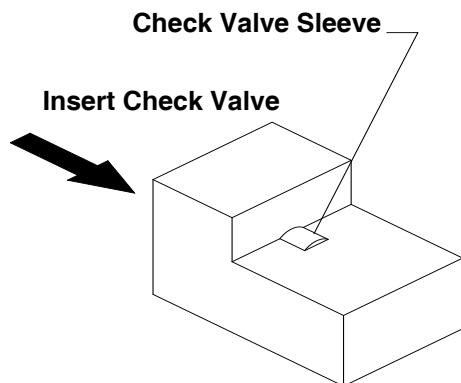

FIG. 24 Sleeve Removal Block
- c. Remove damaged check valve sleeve. Remove ball and spring. Insert check valve into check valve sleeve removal block (FIG. 24). While holding block, and keeping pressure on head of check valve, slice check valve sleeve with razor knife at a 10 - 15 degree angle relative to the plane of removal block. Remove check valve from block and peel sleeve off. If check valve sleeve remains in gun block after removing check valve, use extractor tool to remove sleeve. Insert threaded end of tool into cleanout port and, while pressing tool into gun block, turn it clockwise several times. Withdraw tool from gun block; sleeve should slide out with tool.